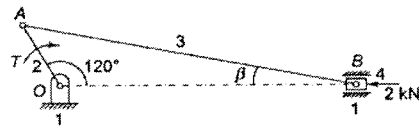

Fig Q3
3. Identify two force, three force and two forces with a torque member in the fig Q3 shown.